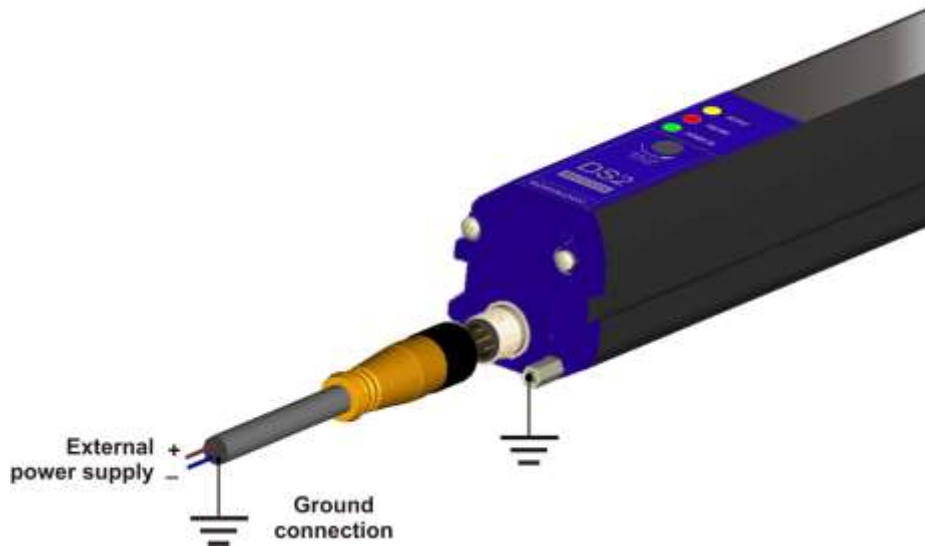

Fig. 5
- Shielded cables are not foreseen in the standard connection. However, if necessary, these cables can be used in presence of ground connection of both the unit and cable, as shown in Fig.5.
- Follow the connection illustrated in Fig.5 when ground connection of the entire system is used.